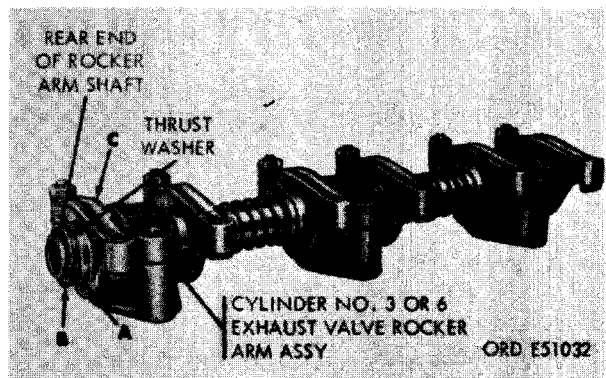
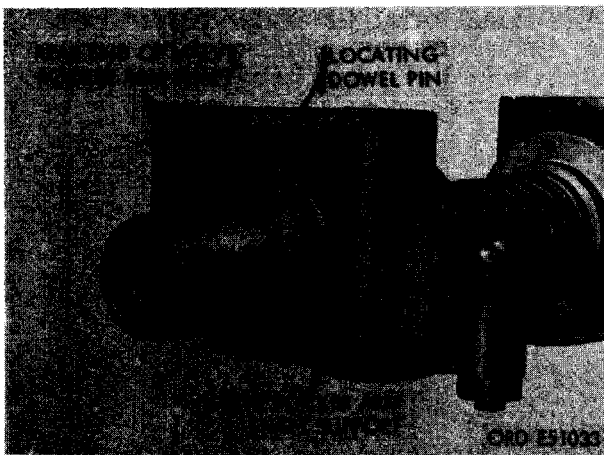

FIGURE 184. REMOVING OR INSTALLING CYLINDER NO. 3 (OR 6) EXHAUST VALVE ROCKER ARM ASSEMBLY.
FIGURE 185. CYLINDER NO. 3 (OR 6) EXHAUST VALVE ROCKER ARM REMOVED SHOWING LOCATING DOWEL PIN AT REAR OF ROCKER ARM SHAFT.
- (1) Figure 184. (A) Remove valve rocker arm retaining ring securing cylinder No. 3 exhaust valve rocker arm assembly to valve rocker arm shaft. (B) Remove valve rocker arm thrust washer, (C) Remove cylinder No. 3 exhaust valve rocker arm assembly. Refer to figure 185 and note locating dowel pin in the valve rocker arm shaft and notch in valve rocker arm shaft support. Pin prevents shaft from rotating and locates rocker arm bearing oil holes.
- (2) Inspect valve rocker arm assemblies (C) for worn valve stem contact surface and damaged valve rocker arm adjusting screw (C-3). Inspect valve rocker arm shaft (E) for worn bearing surfaces, plugged oil passages and evidence of oil leaking past plug (D) at each end of shaft. Inspect for broken or weak thrust springs (J). Inspect for cracked or damaged rocker arm shaft supports (F). Inspect the valve rocker arm retaining ring (A) for weakness or distortion. Inspect rocker arm thrust washer (B) for excessive wear or distortion.
**f. Assembly.** Refer to figures 184 through 186 and reverse the sequence of illustrations and instructions to assemble the front set of rocker arms.